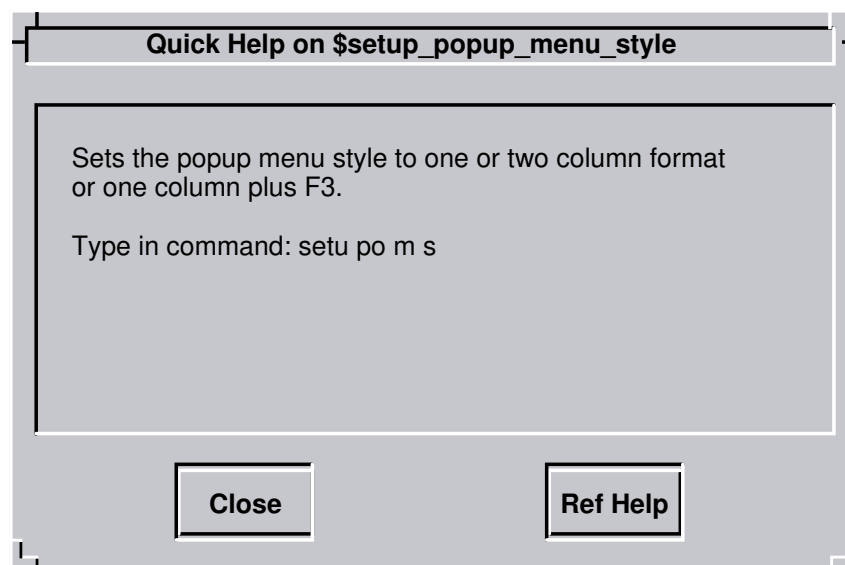

Figure 2-15. Quick Help Message Box
- Quick help is displayed in a message box, as shown in Figure 2-15.